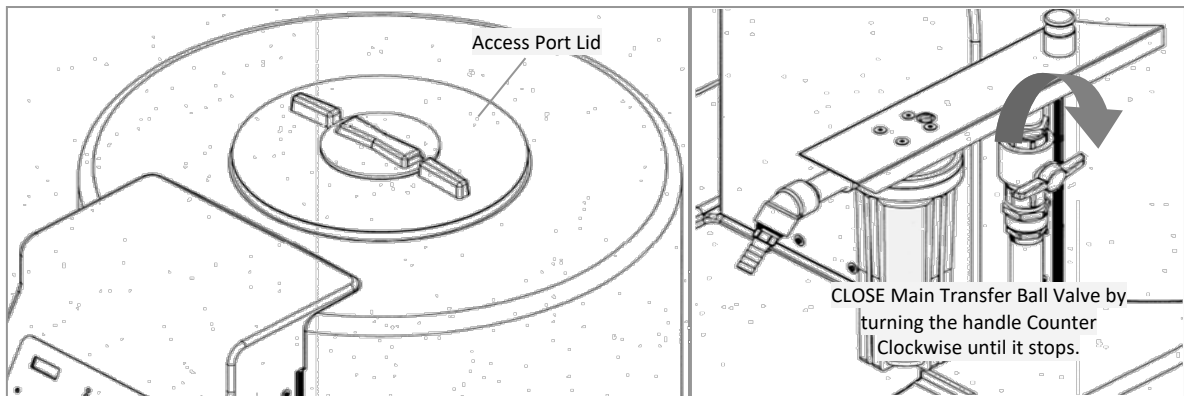

Figure 1
1. Before initiating the *RINSE CYCLE*, the operator must ensure that the GranuFlo Dissolution Unit II Access Port Lid in place (do not fully secure) and the Main Transfer Ball Valve is in the CLOSED position. Make sure the Water Supply Valve is OPEN (Figure 1).